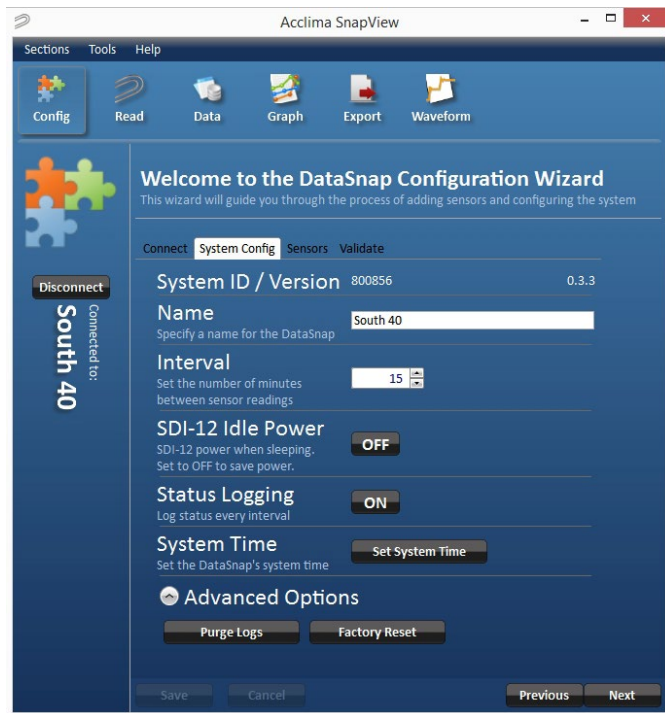

Figure 9 - System Configuration
- **Interval** – This is the number of minutes between automatic sensor readings. **Figure 9** shows a DataSnap named 'South 40' that is configured to take a new set of readings every 15 minutes. This interval is measured from the beginning of the previous cycle to the beginning of the subsequent cycle. For example, if the first automatic reading cycle begins at 10am and takes one minute to complete. The second automatic reading cycle will begin at 10:15am.